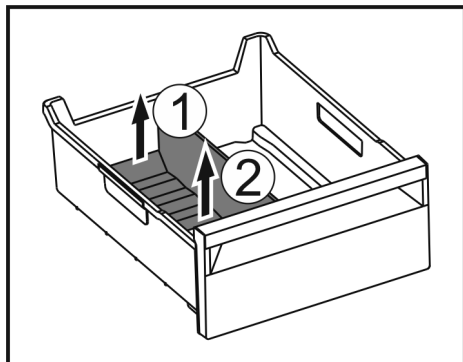

Fig. 195
- Lift the rear part of the ice compartment divider. Fig. 195 (1)
- Remove the ice compartment divider upwards. Fig. 195 (2)